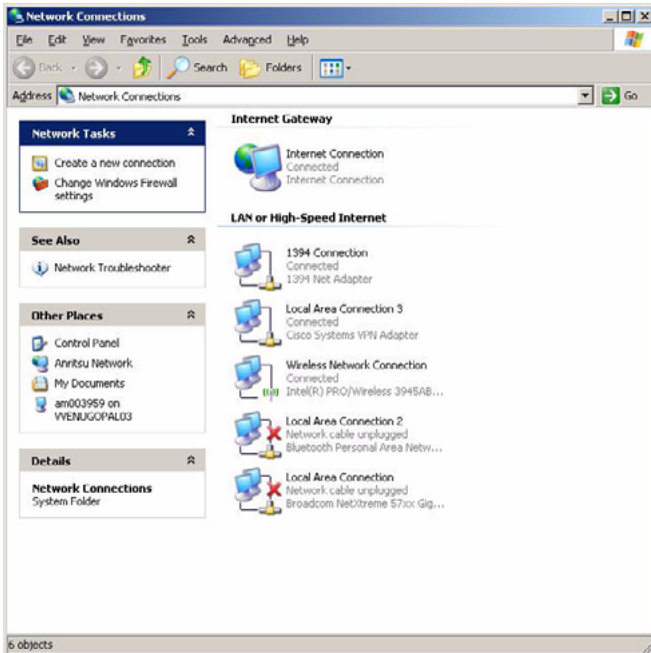

Figure 1-3. PC Network Connections
2. Find the connection to the Ethernet Controller in your PC. For example, in Figure 1-3, this corresponds to “Local Area Connection – Broadcom NetXtreme 57xx Gigabit Controller”